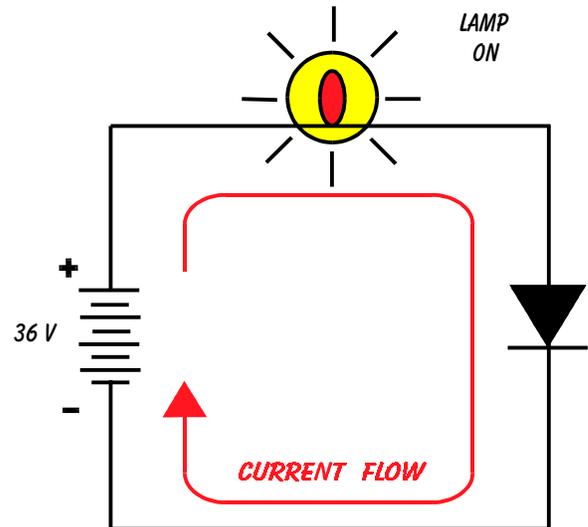

Figure 2
**F**orward-biased means that the diode is connected with the correct polarity, anode to positive and cathode to negative. In Figure 2 we can see that the
diode is forward-biased to allow current to flow through the lamp and the diode to complete a path from battery positive to battery negative. If we would measure the voltage across the diode in Figure 2, we would measure approximately .7 volts. This means that the voltage across the lamp would be 35.3 volts or 36 volts minus the .7 volts across the diode. It should be noted that in any series circuit, such as Figure 2, the voltage drop across each component must add up to the voltage being supplied, in this case 36 volts. The .7 volt drop across our diode is typical for any diode of any size. The larger the diode the higher the current rating but the voltage drop of .7 volt is always the same.